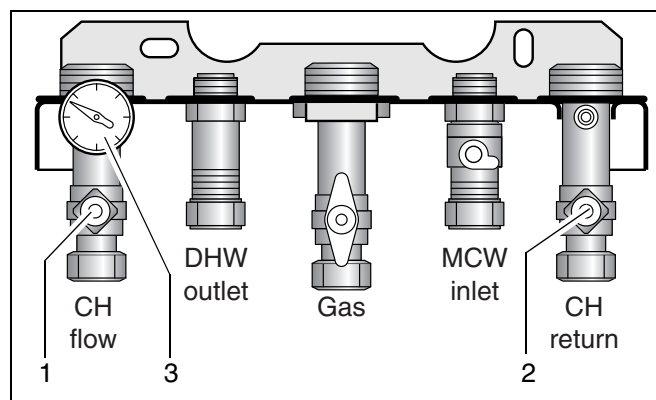

fig. 3 Servicing valves
- Check the pressure gauge (fig. 3, item 3) located at the bottom of the boiler for the current system pressure. Optimum system pressure is 1.5 bar.
- If necessary open the CH flow and CH return servicing valves (fig. 3, item 1 and 2).
- Fill the system to a pressure of approx. 1.5 bar (fig. 3, item 3).